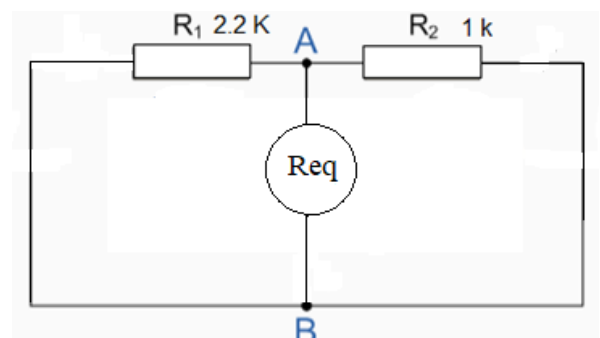
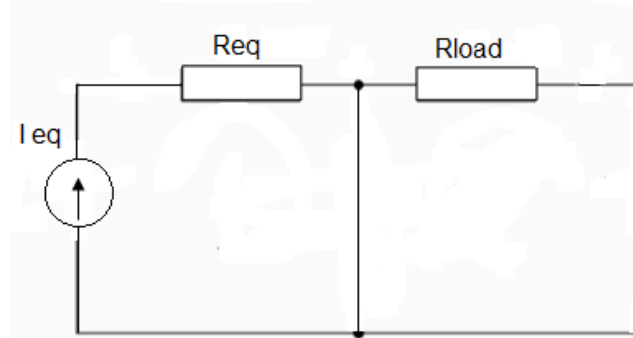

Fig. 6.2.2: Norton equivalent resistance.
Fig. 6.2.3: Norton Equivalent circuit.
The equivalent resistance in the method of Norton is identical in the value that calculated by the method of Thevenin shown in Fig 6.2.2, but here that resistance is connected in parallel to the equivalent source Fig 6.2.3 shows the equivalent circuit based on Norton theorem.
- 6- Keep R_3 removed, replace the sources to short circuit and measure the equivalent resistance in Fig 6.2.2, write the result in the table 6.2.4.
- 7- Assemble Norton equivalent circuit in Fig 6.2.3 to measure the current and the voltage in the load resistance, write the result in the table 6.2.4.